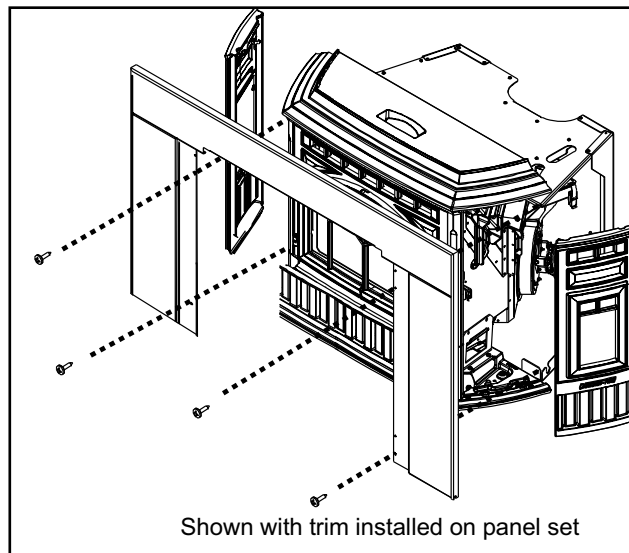

Figure 20.5
4. Carefully slide panel and trim over the top of the insert into place matching the mounting holes on the panel with the mounting holes on the insert. Secure with screws provided. **Figure 20.5.**